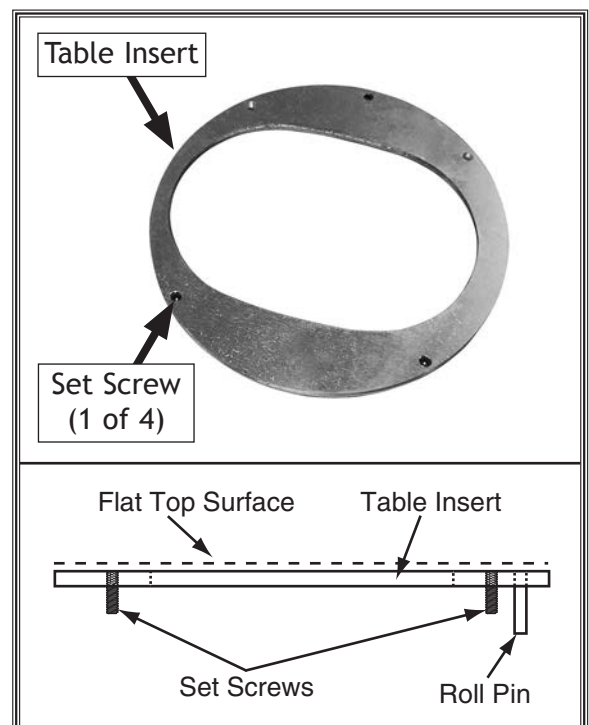

Figure 16. Inserting set screws.
- Thread four 1/4"-20 x 5/8" set screws into threaded holes in each table insert, as shown in **Figure 16**.